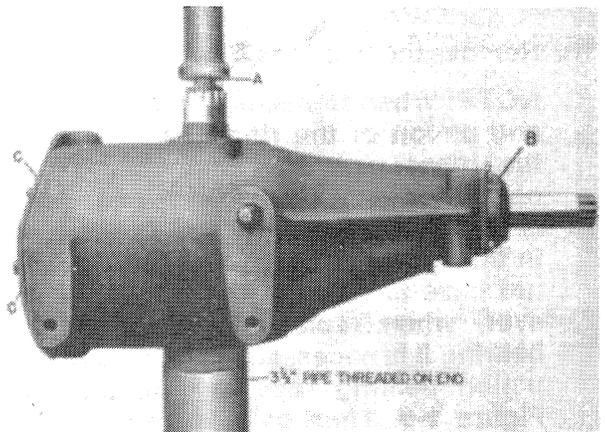

FIGURE 1-7
4. Release locknut (22) by bending the ear of lock washer (23) which is holding it secure.
5. Remove the locknut, lock washer, and bearing (25) if it is free at this time.
7. Remove shims and save them for the reassembly of the gearbox. Remove the bearing (12) at this time if it is free.
8. Install the 5/8" x 1 3/4" cap screw and flat washer in the end of the output shaft as shown at A, Figure 1-7. This is the same cap screw and washer originally installed in the end of the output shaft.
IMPORTANT: The outside diameter (OD) of this pipe must be turned down slightly on the end so the outside diameter does not interfere with the outer race of the bearing and result in damage. A section of pipe which has been threaded as shown in Figure 1-7, is correct in size. If a threaded section of pipe is not readily available, the OD of standard 3 1/2" (88 mm) pipe may be turned down 5/32" (3.9 mm).
10. Press the output shaft out of the ring gear hub as shown in Figure 1-7. It will require 25 tons-30 tons of force (222,400 N-266,800 N) to separate the shaft and ring gear hub.
12. Remove the end cap indicated at B, Figure 1-7, by removing the four 5/16" x 3/4" hex-head cap screws.
13. Unlock locknuts by removing lugs of lock washer (5) which hold the locknuts.
15. Install the original cap screw in the end of the pinion shaft (1), Figure 1-6, turn medium tight, support the gearbox firmly on end, C, Figure 1-7, and remove the pinion shaft by pressing down through the gearbox.